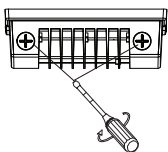

Fig. 14
- 3.) Replace the KO plugs, ensure they are tight to prevent any ingress water. The clear plastic plug should be used on the hole with the photocell controller (**Fig. 14**).